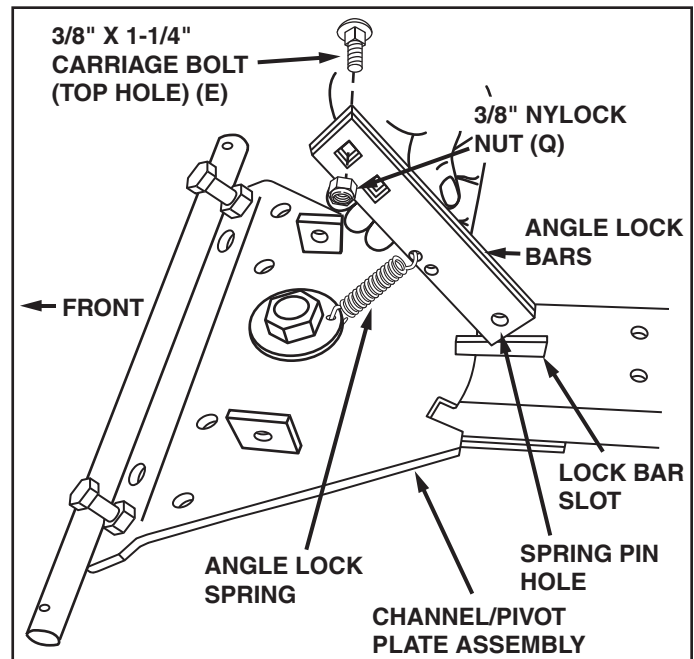

FIGURE 10
STEP 10: (SEE FIGURE 10 and 11)
- Assemble the two angle lock bars together using a 3/8" x 1-1/4" carriage bolt (E) and a 3/8" nylock nut (Q) in the top square holes. **Do not tighten.**